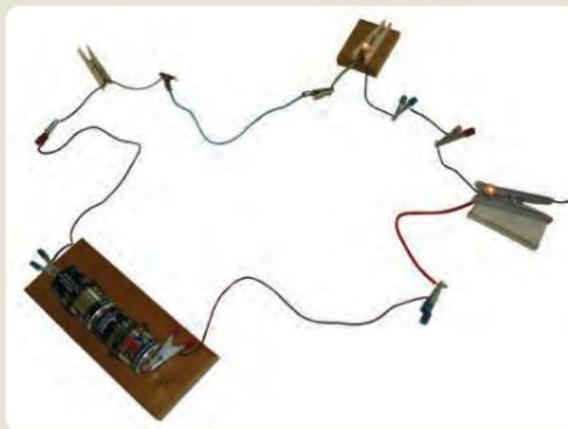

Figure 8.30 Two bulbs connected in series
- 3 Connect Bulb 2 into the circuit as shown in Figure 8.30.